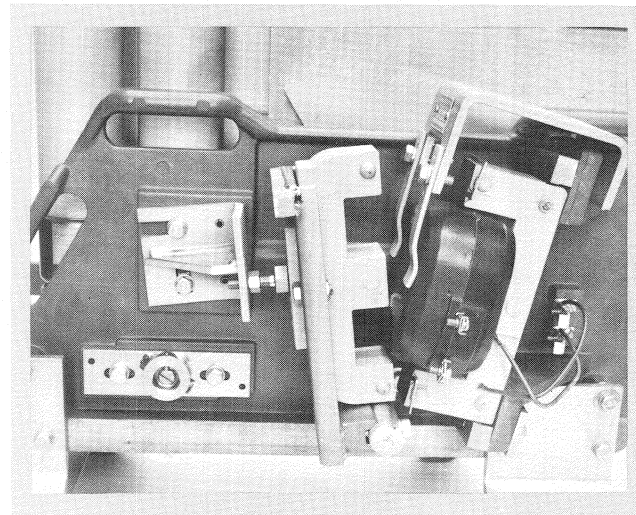
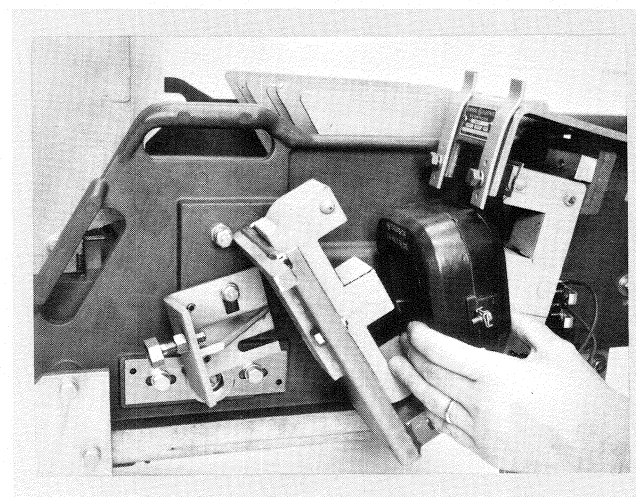
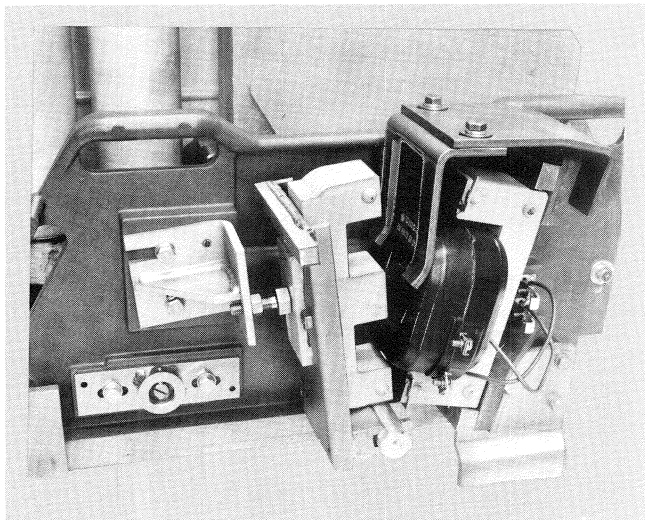
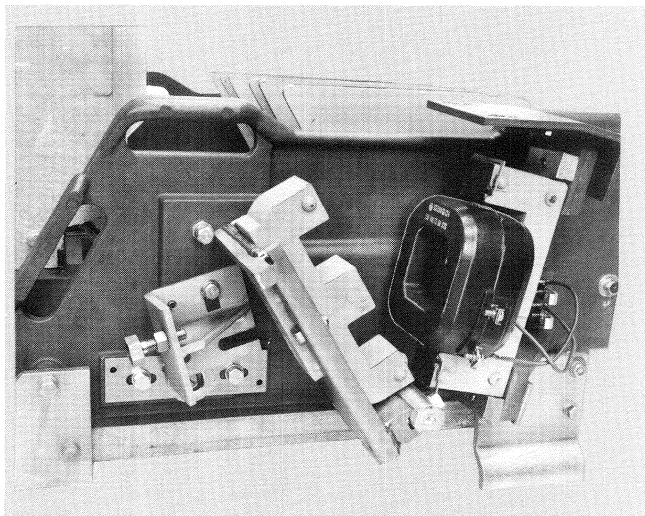

Fig. 33. Magnet structure with old style coil-retaining assembly
Fig. 34. Backstop rotated to permit removal of coil
Fig. 35. Magnet structure with new style coil retainer
Fig. 36. New style coil retainer removed to allow removal of coil
8. Check to be sure that the armature doesn't hit on the coil and that the coil leads and retaining springs or bracket (see Fig. 33 or Fig. 35) haven't been left in the way so that armature hits them when it closes.
(a) Flat pole shaders (see Figs. 33 or 35)
5. Check also to be sure armature doesn't hit on coil, and that coil leads and retaining springs or bracket (see Figs. 33 or 35) haven't been left in the way so that armature hits them when it closes.
1. Loosen the back stop support bolts and rotate the back stop to the position (see Figs. 34 and 36).
2. Disconnect coil leads at the coil (see Figs. 33 and 35).
3. For contactors that have a coil retainer as shown in Fig. 33, loosen bolts that secure the two coil retaining springs and rotate the springs 180°, as shown in Fig. 34, and remove the coil.
3a. For contactors having a coil retainer as shown in Fig. 35, remove hardware that bolts the coil retainer to its support. Remove retainer as shown in Fig. 36 to allow removal of the coil.